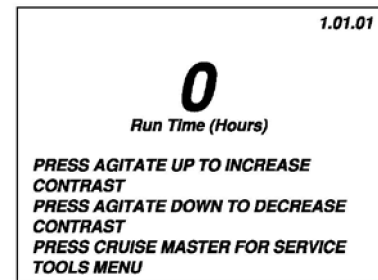

Figure 1
4. Press the 'Cruise Master' button while at the Startup screen to enter the Service Tools menu (Figure 1).